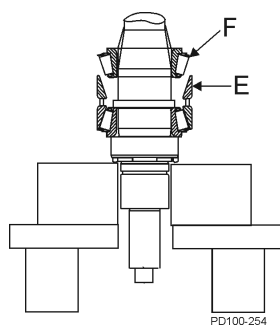

Figure 49 - Install Upper Cup & Upper Cone
7. Place the upper cup (Figure 49, item E) on top of the outer spacer.
8. Lubricate the remaining upper cone and roller assembly (Figure 49, item F) with oil or grease and slip it over the shaft with the roller radius facing up. Press it onto the shaft and into the upper cup.